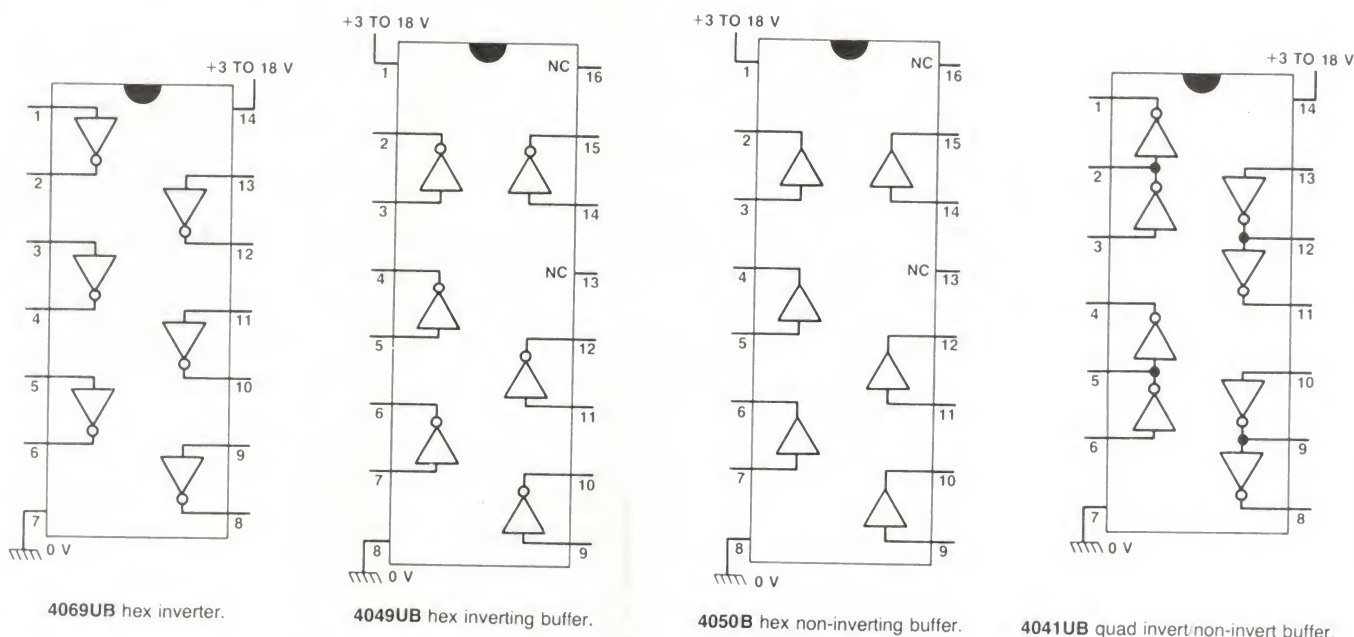

Figure 3. Five popular CMOS inverter and buffer ICs.
Inverters and buffers are available in dedicated CMOS IC form, and Figure 3 gives details of five popular examples. The 4041, 4049 and 4069 types use the unbuffered (UB) low-gain form of CMOS construction, and the 4050 and 4502 use the high-gain buffered form of construction.